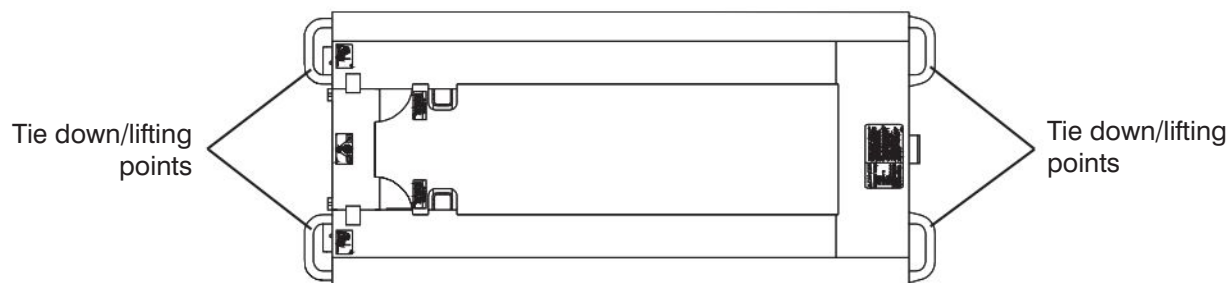

Figure 2-18. Tie Downs/Lifting Points
- The lifting/rigging may be attached to all four lifting points as illustrated in Figure 2-18.
**When transporting, the aerial platform must be secured to the truck or trailer deck. Tie downs are available as illustrated in Figure 2-18.**